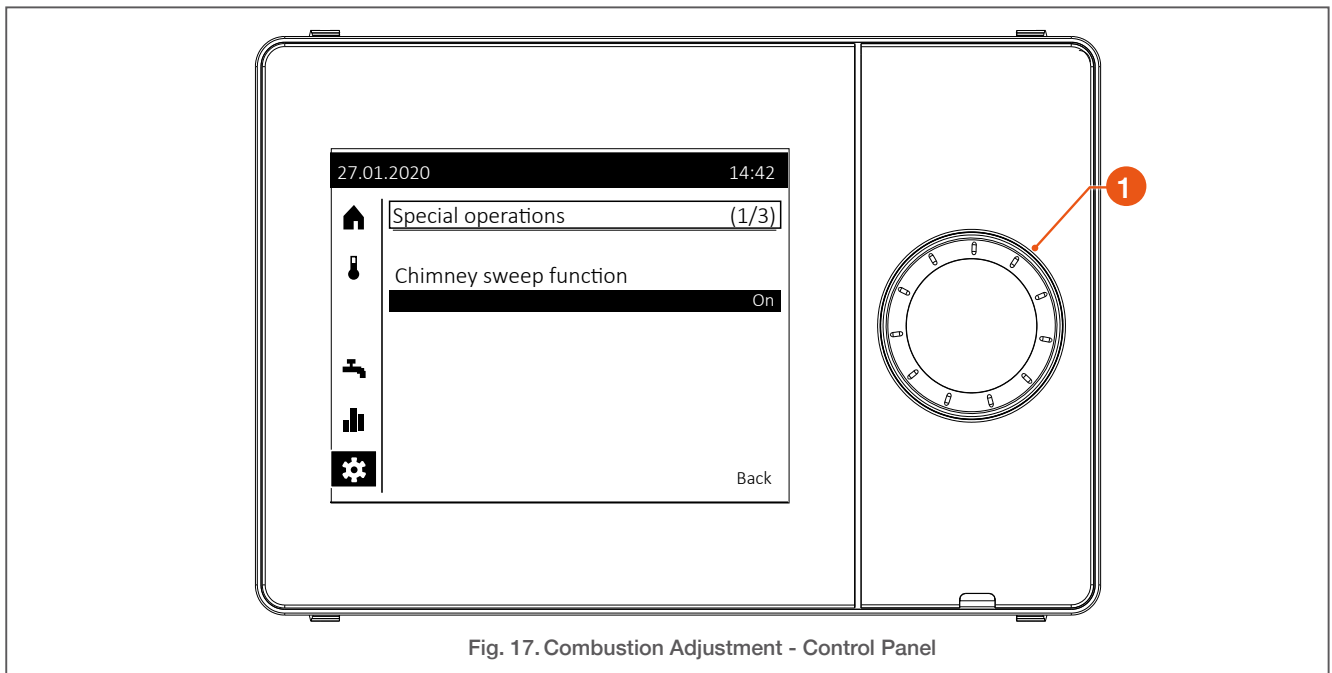
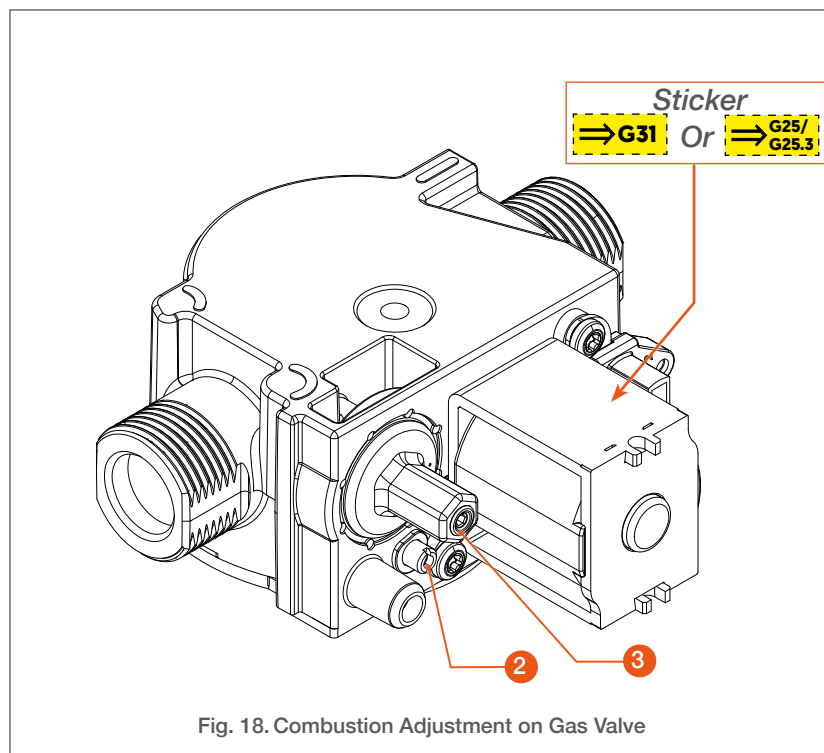

Fig. 17. Combustion Adjustment - Control Panel
Fig. 18. Combustion Adjustment on Gas Valve
### Adjustment Procedure (Fig. 17 & Fig. 18):
- ▶ Using the rotary selector (1), select and activate the  icon,
5. If the value is outside the range, adjust the combustion value by turning the gas valve throttle (2, Fig. 18) in small steps. Allow the value to stabilise before performing additional adjustments.
- ▶ On the gas valve (**Fig. 18**), place the yellow sticker indicating that a gas conversion has been carried out.